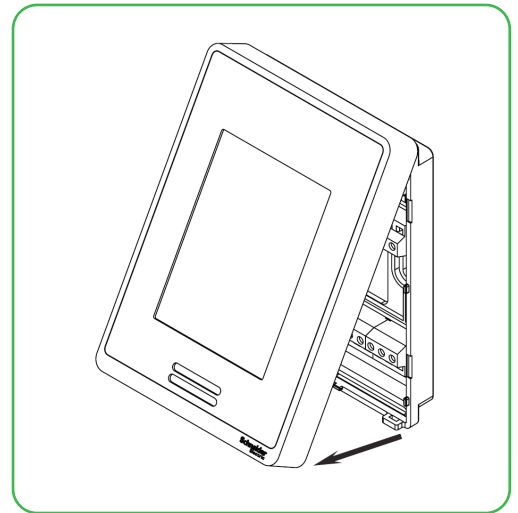

Figure 1
2. Open the unit by pulling on the bottom of the Room Controller (Figure 1).